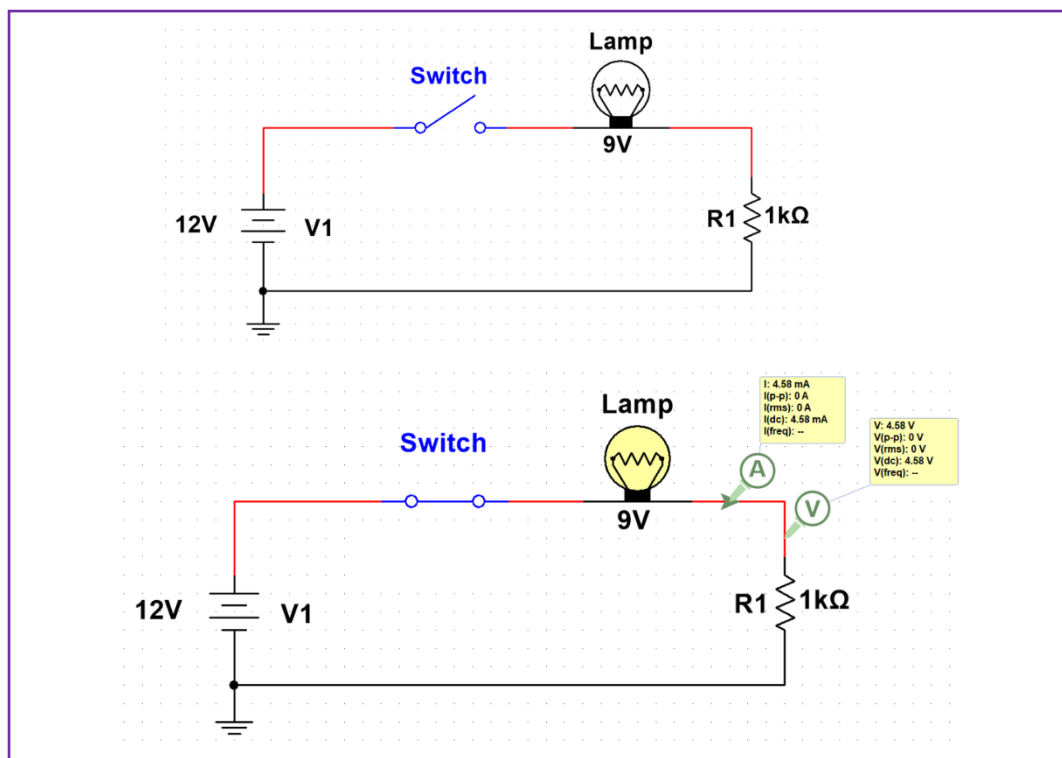

Fig 1.1: Circuit Diagram Showing Components Connected in MultiSim Software
- Make the circuit connection as per the Fig. 1.1.